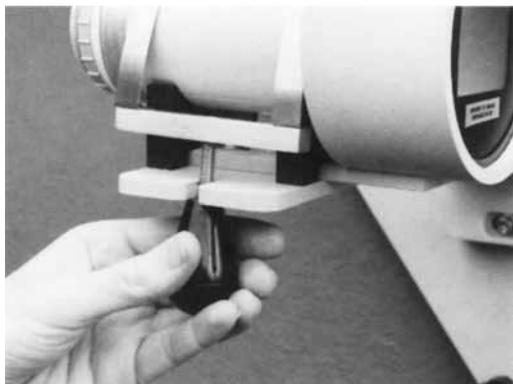

Figure 6
2. Secure the cone into position by sliding the threaded shank of the lock handle into the slot on the fixator/collimator base and tightening the knob (Figure 6).